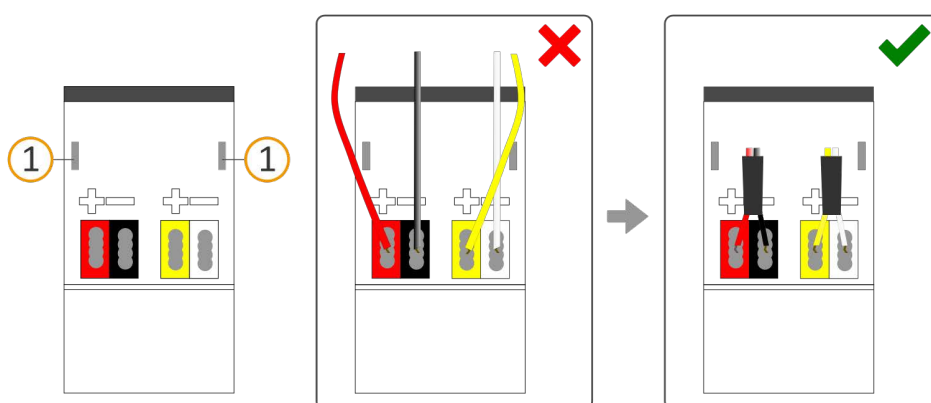

Figure 11: Cable routing
- a. Route all cables to the back. The openings for fastening the cover cap (see figure 11, item 1) must be clear. All cables must be between the openings.